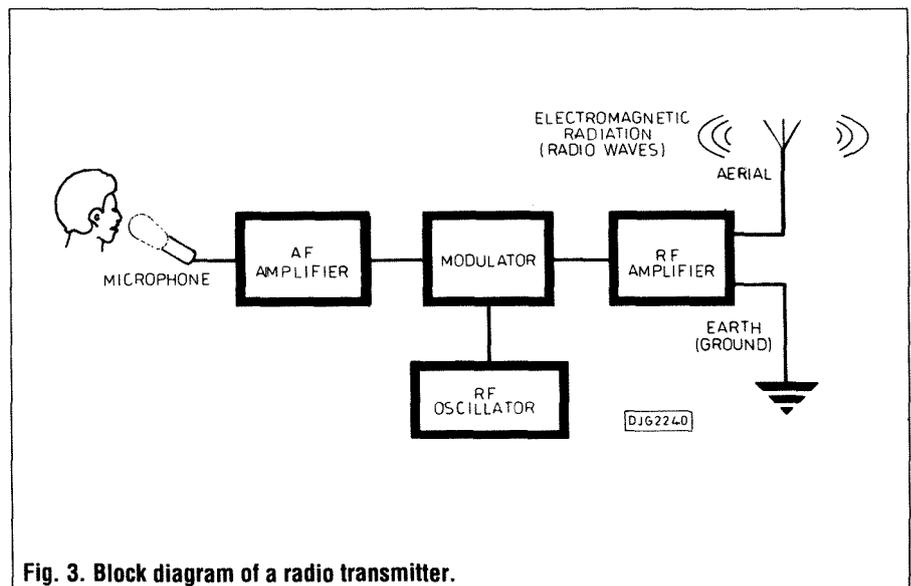

Fig. 3. Block diagram of a radio transmitter.
A more sophisticated method is amplitude modulation (AM), as shown in Fig. 2c. Fig. 3 shows how the information to be transmitted (speech, music) is picked up by a microphone, amplified by an audio frequency (AF) amplifier and fed to
The carrier wave of a transmitter is produced by a radio-frequency (RF) oscillator (Fig. 3) which may be based on a LC circuit (Colpitts or Hartley). Unfortunately, these circuits have frequency stability problems under a range of operating conditions. One solution is to use a piezo-electric crystal in the circuit. Now, the capacitor and inductor pair form an oscillating circuit with the latter being part of a RF transformer allowing the oscillating signal to appear on the coil feeding the aerial. The oscillations are maintained by the fluctuating collector potential of the transistor. This also causes the crystal to vibrate at its natural frequency, which is close to that of the tuned circuit. The vibrations of the crystal act as feedback, varying the base current to the transistor and hence the collector current and potential. Whereas the tuned circuit
In Fig. 3 the carrier wave is fed directly to the aerial but, in most transmitters, there is an RF amplifier to increase the power before it is sent to the aerial. This consists of a simple metal rod or, for transmitters in the medium-wave and long-wave bands, it may be a wire or array of wires suspended above ground on tall masts. EM radiation spreads out in all directions which gives wide distribution of the signal but is wasteful of energy. By suitable design of the array it is possible to concentrate the radiation and increase the transmission range in one particular direction. In the UHF bands the aerial is much shorter and is often mounted at the focal point of a parabolic metal or wire-mesh reflector. Such as dish not only has the advantage of maximising transmission range but gives a certain amount of privacy to